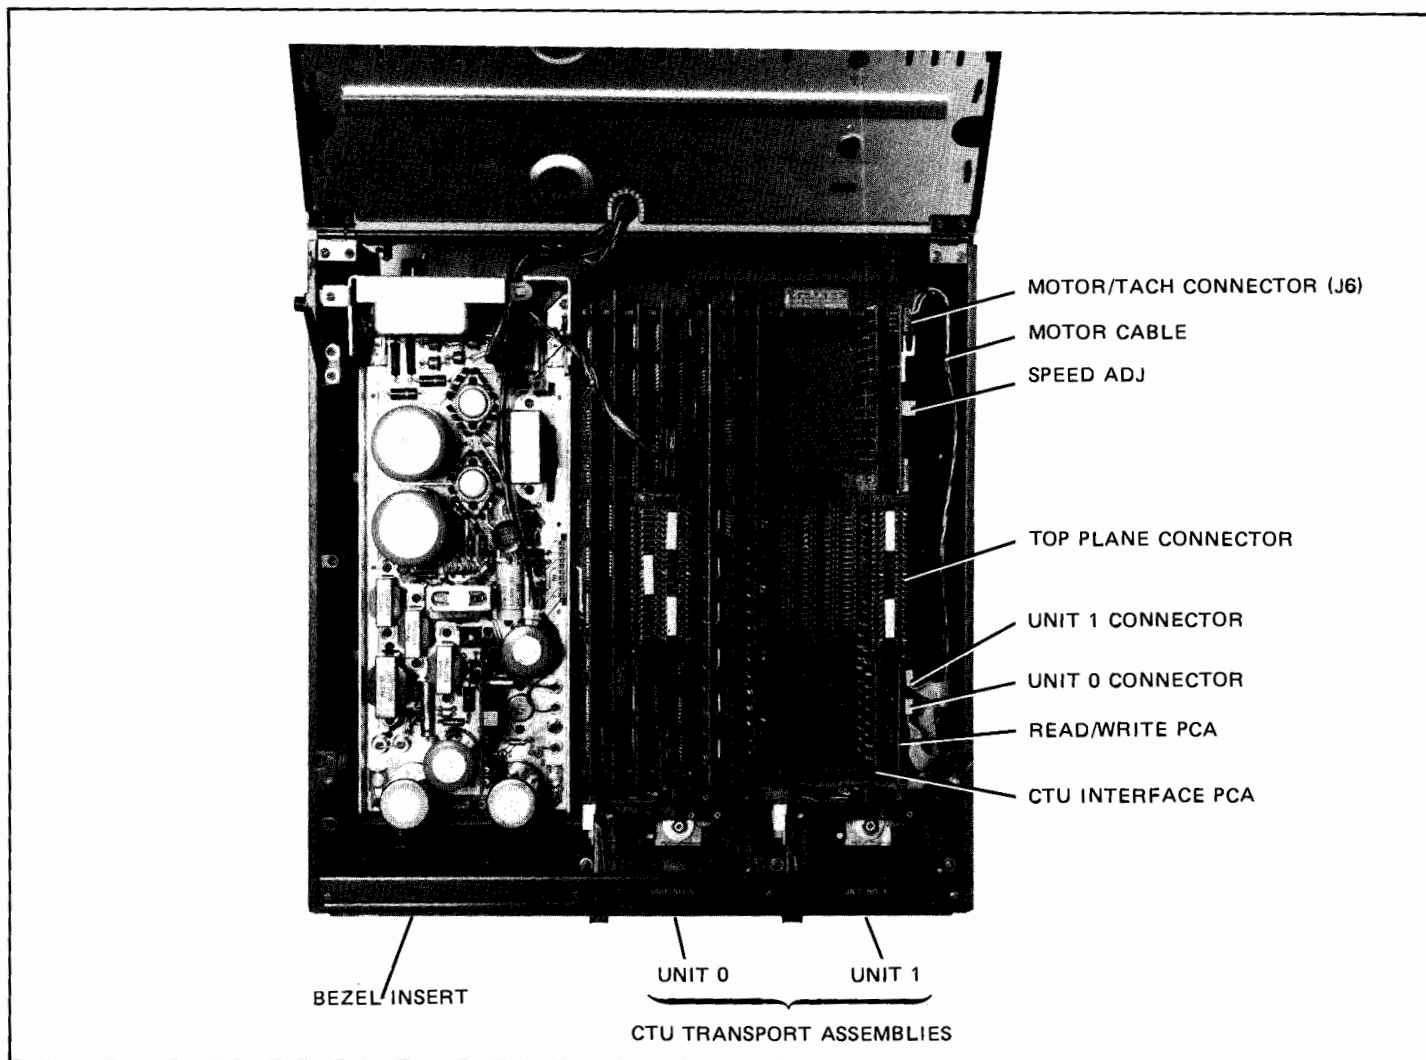

Figure 2-23. Accessory Component Locations
8. Connect motor cable four-pin connector to Read/Write PCA connector J6 as shown in figure 2-23.
9. Route motor cable to front of mainframe shell as shown in figure 2-23.
17. Connect UNIT 0 ribbon cable to Read/Write PCA socket labeled "U0". Refer to figure 2-23.